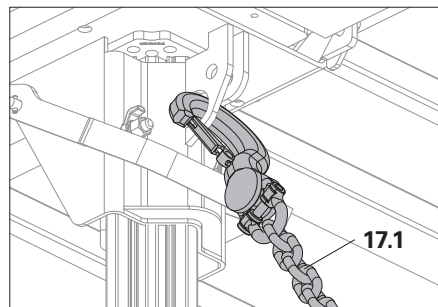
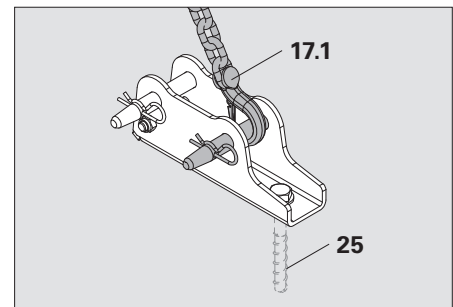

Fig. A4.03a
Fig. A4.03b
Alternatively: Guardrail Post SGP. (Fig. A4.03a)
1. Push the Guardrail Holder GT 24 / VT 20 (14.2) with the square pipe downwards onto the Girder VT 20K (5).
2. Attach to Girder VT 20K (5) using 1x Fitting Pin  $\varnothing 20 \times 140$  (55), and secure with cotter pin 4/1 (47).
3. Insert Guardrail Post HSGP-2 (12). (Fig. A4.03b)
4. Attach Side Mesh Barrier PMB 260 (39) or handrail boards.
- Anchor Chain 3.0 kN, L = 2.5 m (17.1) with Turnbuckle 3.0 kN, M12 and Base Plate-2 for RS (18).
- (Fig. A4.03a + Fig. A4.03b)